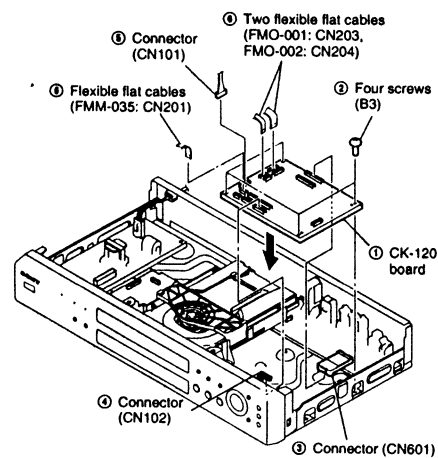

Fig. 3
- 4) Set the CK-120 board as shown in Fig. 3.